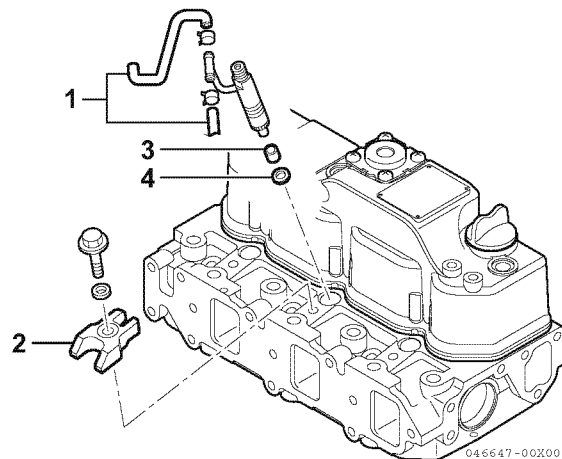

Figure 7-42
3. Remove the return fuel hoses (1, **Figure 7-42**) from one side of each fuel injector.
4. Remove the bolts and washers that secure the fuel injector retainers (2, **Figure 7-42**) to the cylinder head.
7. Remove the injector nozzle protector (3, Figure 7-42) and seat (4, Figure 7-42) from the cylinder head.